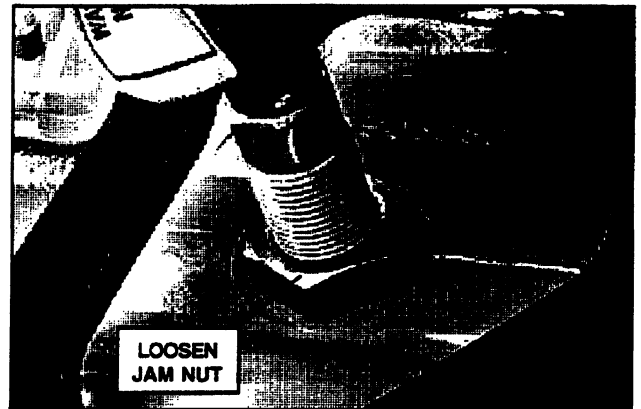

FIGURE 9.3
1. Loosen RPM Sensor Jam Nut and remove Sensor from Bell Housing. See Figure 9.3.